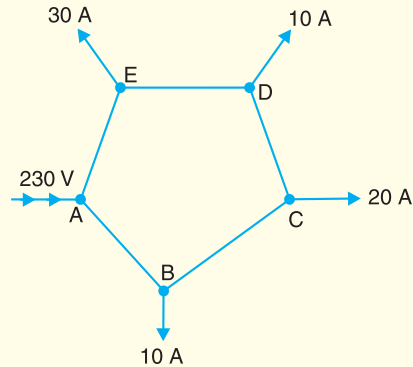

Fig. 13.46
2. A d.c. 2-wire ring main $ABCDEA$ is fed from 230 V supply as shown in Fig. 13.46. The resistance of each section (go and return) AB, BC, CD, DE and EA is 0.1 W. The loads are tapped off as shown. Find the voltage at each load point.